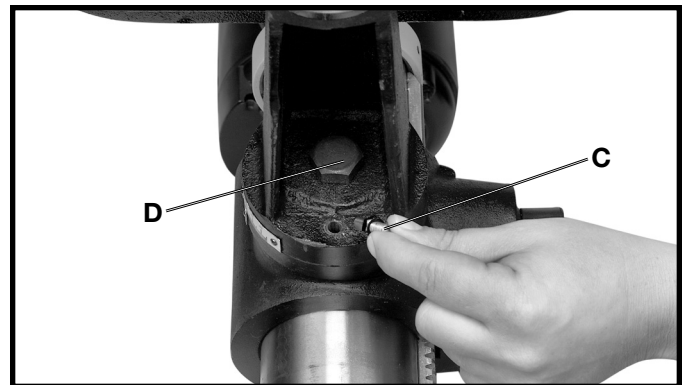

Fig. 25
4. Fig. 25, illustrates the table alignment pin (C) removed. Loosen table locking bolt (D), tilt table to the desired angle and tighten bolt (D). When returning table to the level position, replace table alignment pin (C). This will position the table surface at 90 degrees to the spindle.